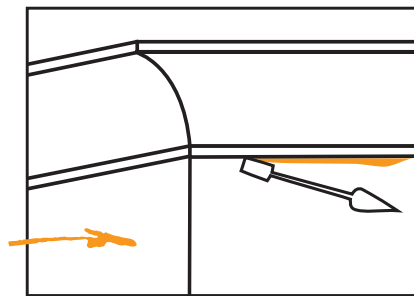

FIGURE 14 Clean Off Excess
- Clean off excess and remove nails when cement has partially set [Figure 14]